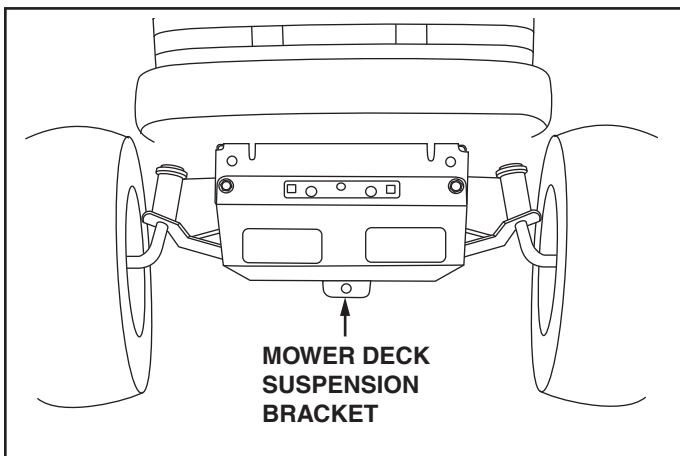

FIGURE 17
STEP 18: IDENTIFY YOUR TRACTOR TYPE (SEE FIGURE 17)